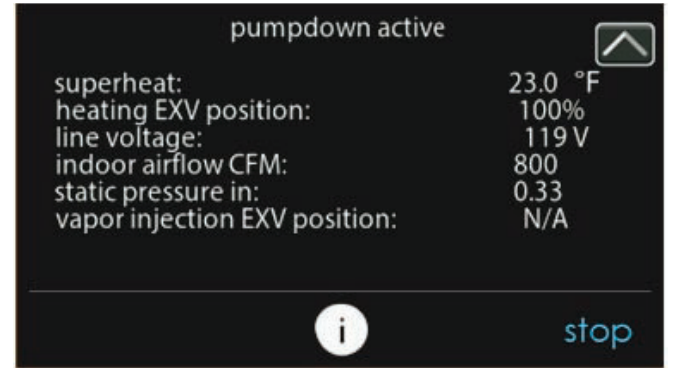

Fig. 25 – Pumpdown Active Screen
4. Select Start on Infinity® System Control to begin the pumpdown process. Unit will begin running in cooling mode after a brief delay and a status screen will be displayed. See Fig. 25.